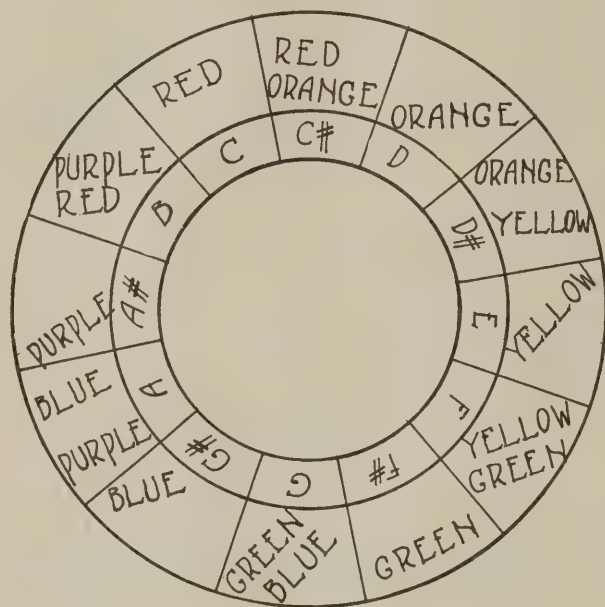

Fig. 2. An arrangement of the primary, secondary and tertiary colors, as relating to the chromatic scale in music
**T**HERE are some curiosities of color to be found in the contention of those who claim highly developed color sense and who endeavor to construct a close relation between the tones of color and the various tones of the chromatic scale. Fig. 2 shows a diagram of the three primaries, three secondaries and what may be called the tertiary colors. Opposite each of these there has been placed one of the notes of the chromatic scale forming a